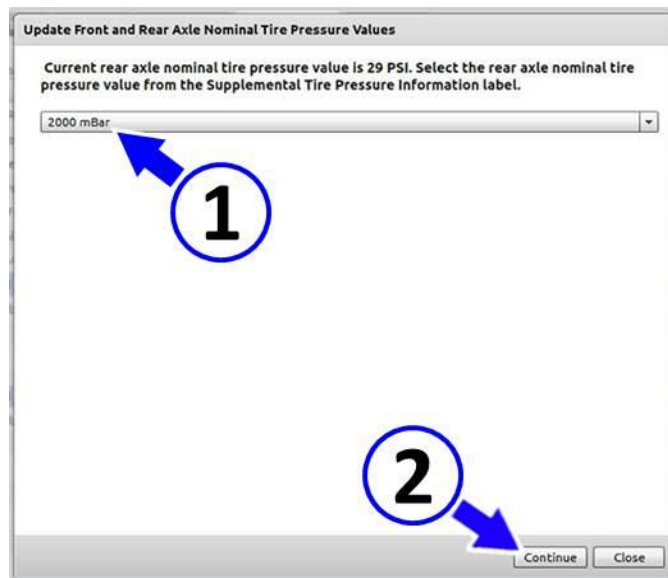

Fig. 6 Set Rear Axle to 2000 mBar
8. The window shown in (Fig. 6) informs that the value set for the rear tires (1) is 2000 mBar (29 psi). This value is correct. Press the "Continue" button (2) as shown in (Fig. 6).